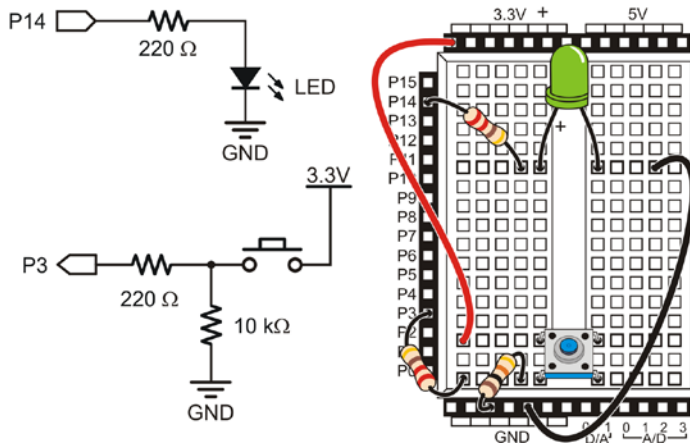

Figure 3-12
Figure 3-12 shows the active-high pushbutton circuit with pull-down resistor used in the beginning of the last activity, along with the LED circuit from Chapter 2, Activity #2.
- Build the circuits shown in Figure 3-12.